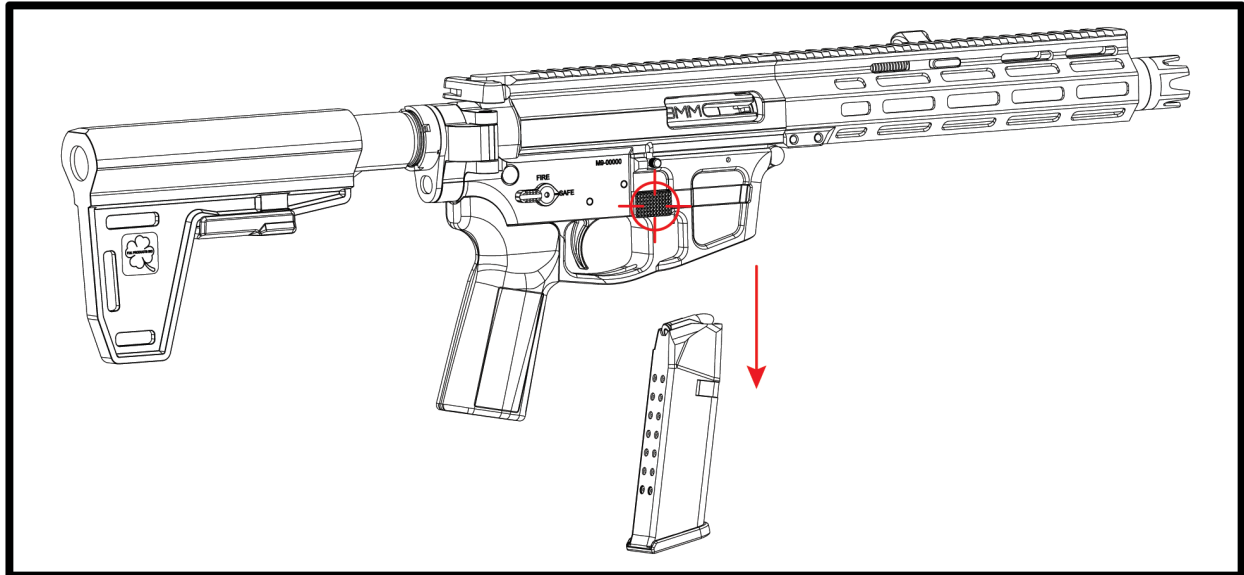

FIGURE 6.1 - Remove the magazine.
2. Remove the magazine. (FIGURE 6.1)